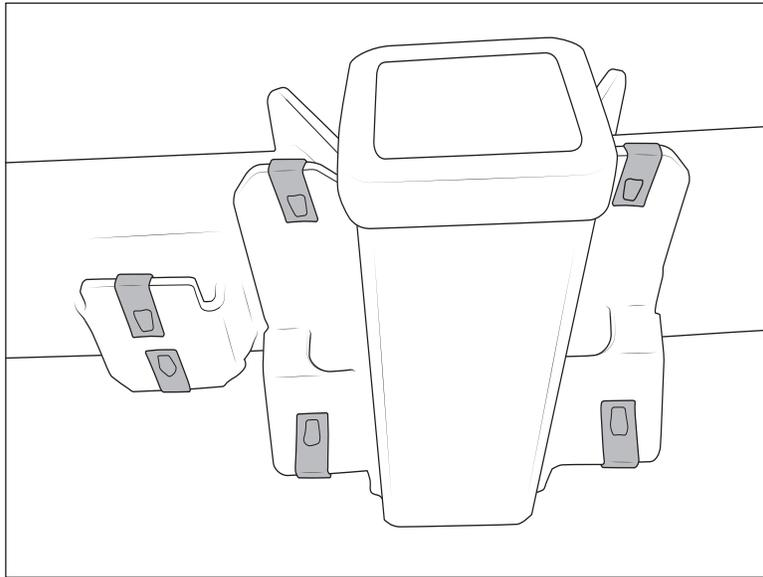

Figure 4
2. Install six M6 U-nuts onto the winch mount center section as shown (fig. 4).